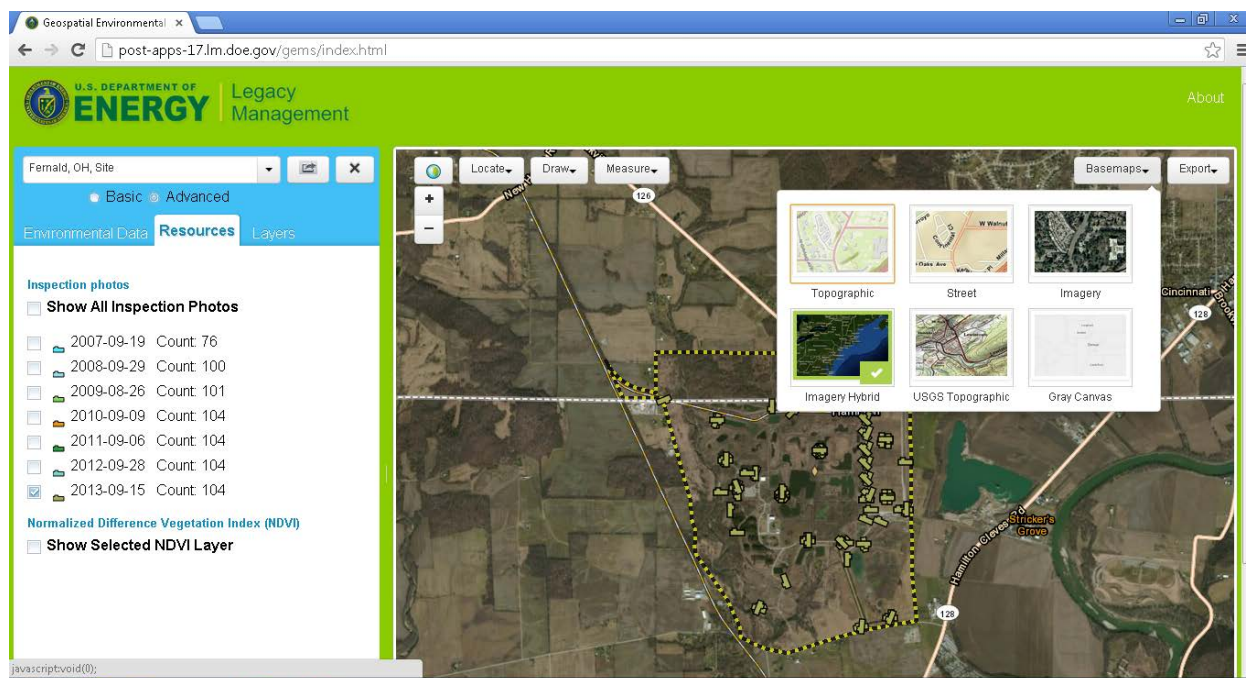

Fig. 4. Screenshot of the GEMS Basemaps tab.
- Basemaps features (**Fig. 4**)